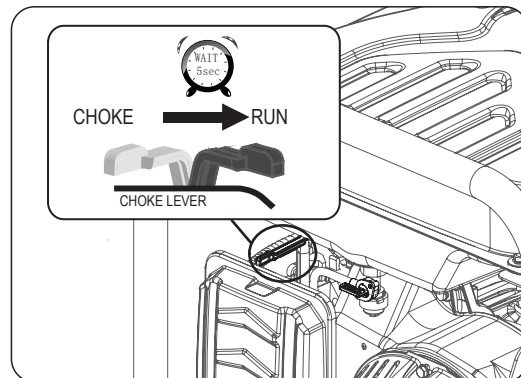

Fig 9
- Let engine run for several seconds and then gradually, as engine warms up, slide the choke lever towards the “RUN” position until the choke is fully slid to the “RUN” position. (See fig 9)